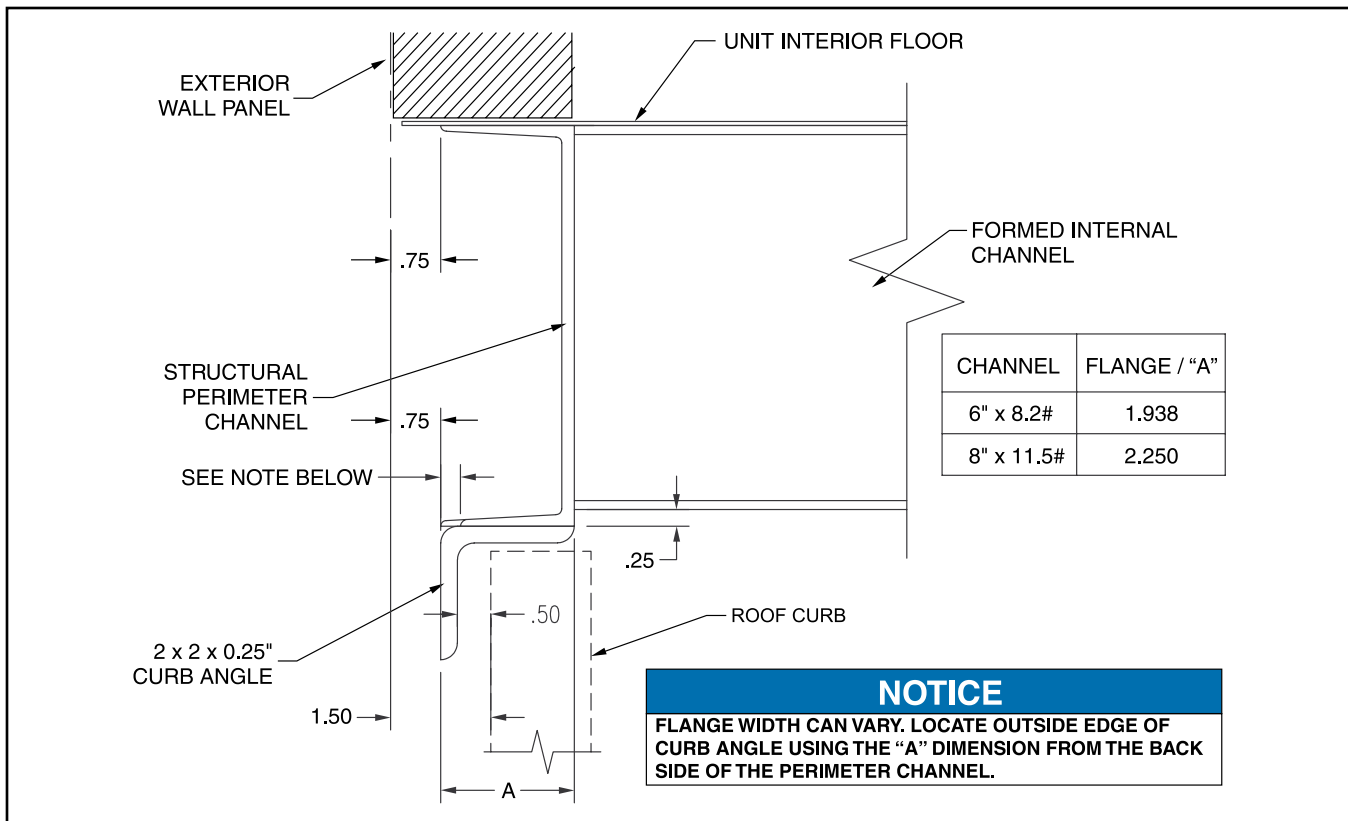

Figure 8 – Roof Curb Detail
2. Curb must be level (shim if required). Shims (at fractions of inch) should be placed at intervals no greater than 5 feet apart. Shims are not intended to compensate for roof pitch. Individual stacks if shims should not exceed 1/2" in height. On large units with splits, remember to shim at the split's midspan (see Figure 8).